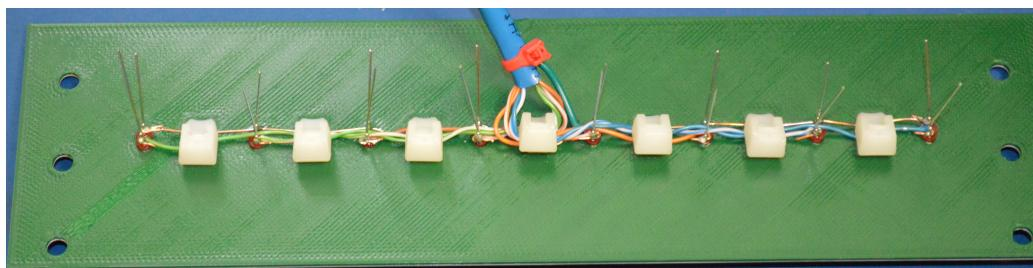

Figure 2.13: The Completed Panel
- Find a place to solder the ground/return wire from the connector to the bare LED ground/return wire. See Figure 2.13.
- Complete the other side of the panel. See Figure 2.13.